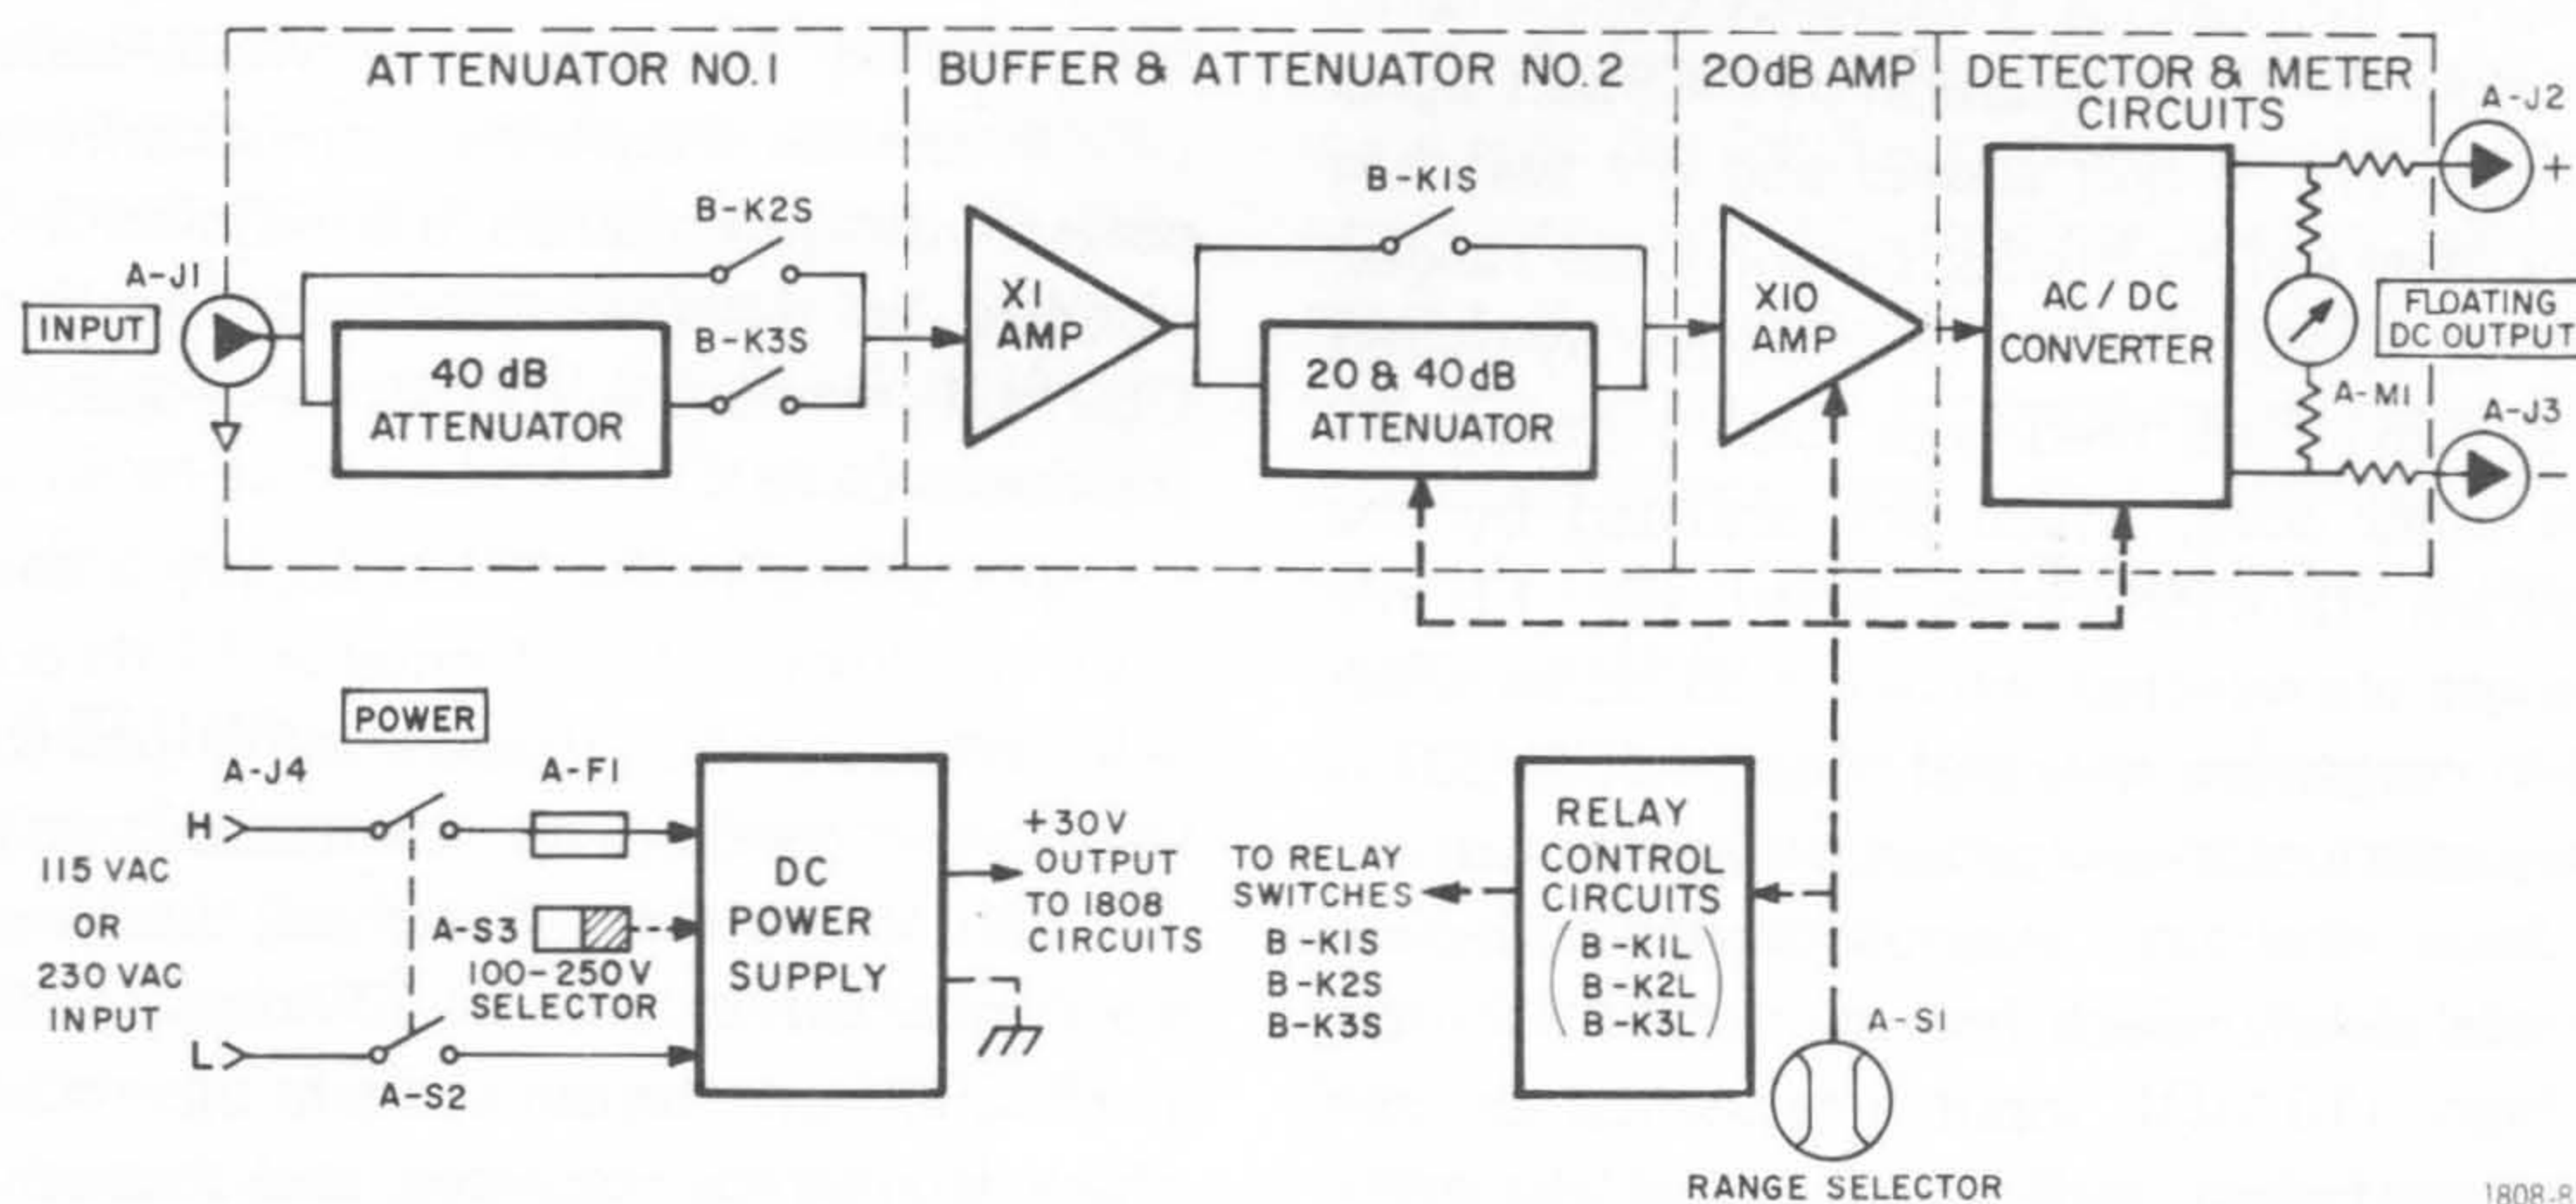

Figure 4-1. Block diagram of the Type 1808 Ac Millivoltmeter.
4.2 FUNCTIONAL DESCRIPTION (Figure 4-1).